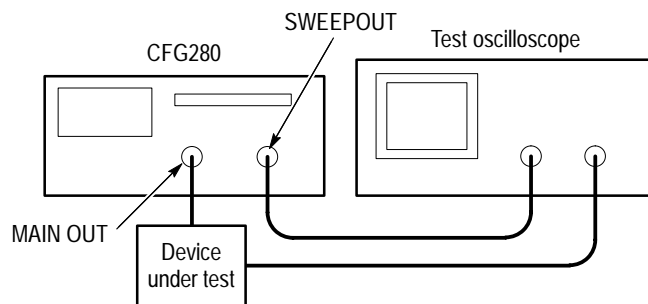

Figure 5: Internal Sweep Test Setup
1. Connect the **MAIN OUT** BNC on the CFG280 Function Generator to the device under test, such as a filter (see Figure 5).
2. Connect the **SWEEP OUT** connector to one channel of an oscilloscope (see Figure 5).
3. Connect another channel of the oscilloscope to the device under test (see Figure 5).